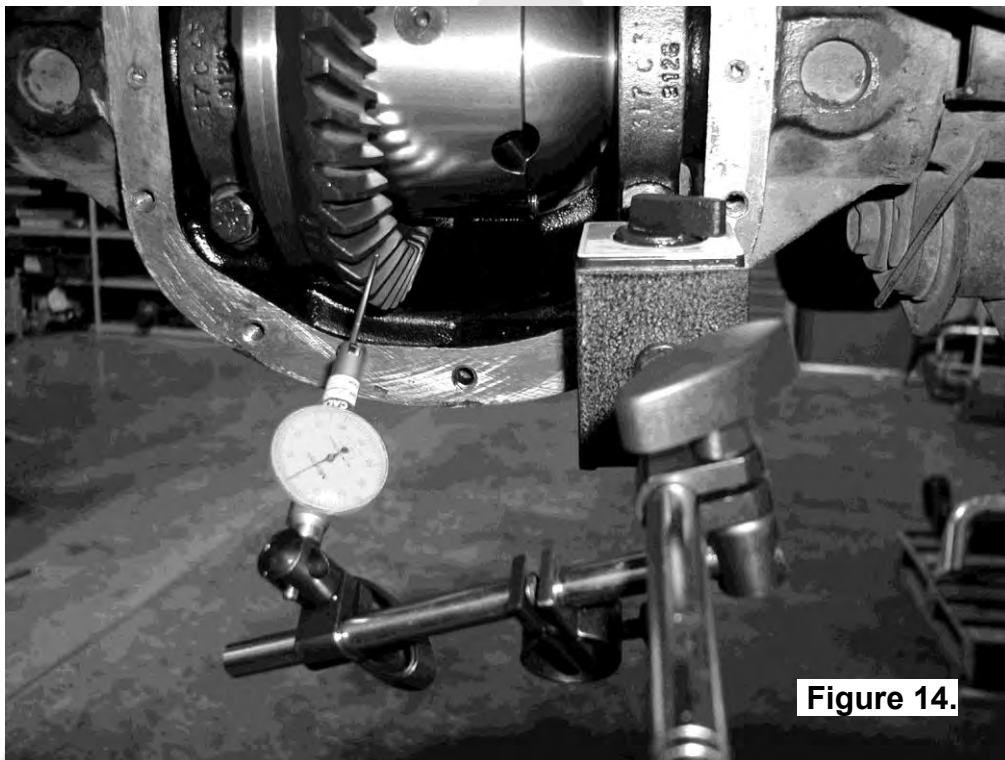

Figure 14.
- Set a depth indicator on one of the ring gear teeth (Figure 14.)